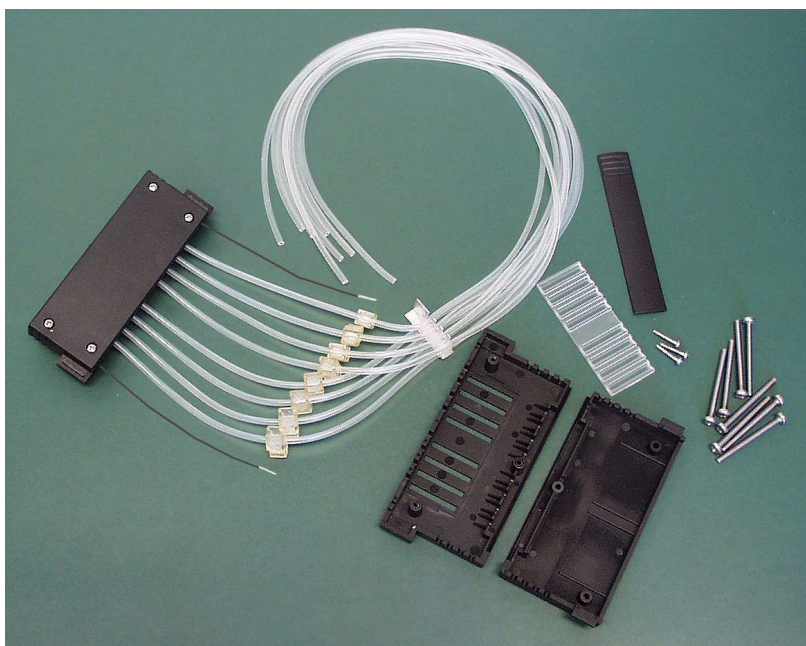

Fig. 7.21 Parts belonging to the upper part of the dispensing cassette
6. Once the lower part of the dispensing cassette has been fitted, place the remaining parts belonging to the upper part of the dispensing cassette onto the laboratory bench (*Fig. 7.21*).